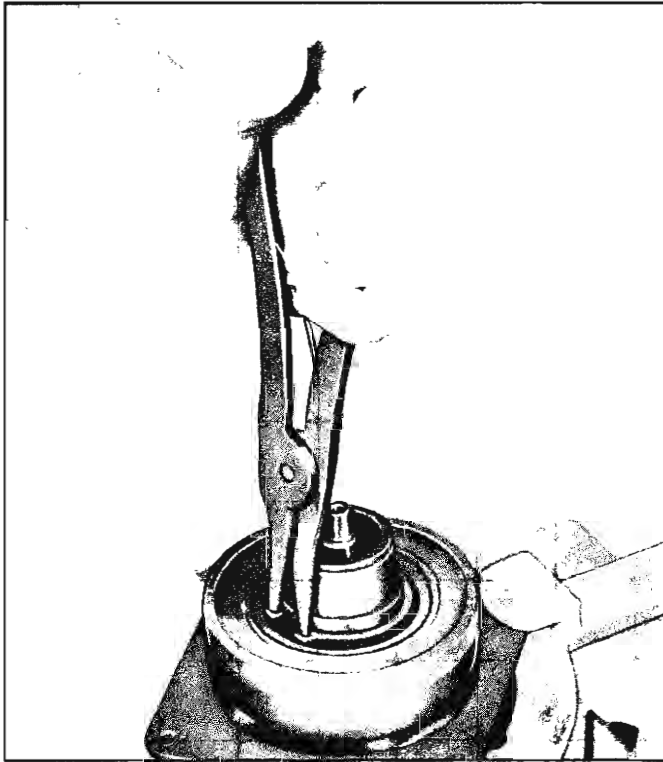

Fig. 19—Removing Coil Housing Retainer Ring
3. Using snap ring pliers J-6435, remove the coil housing retainer ring (fig. 19).